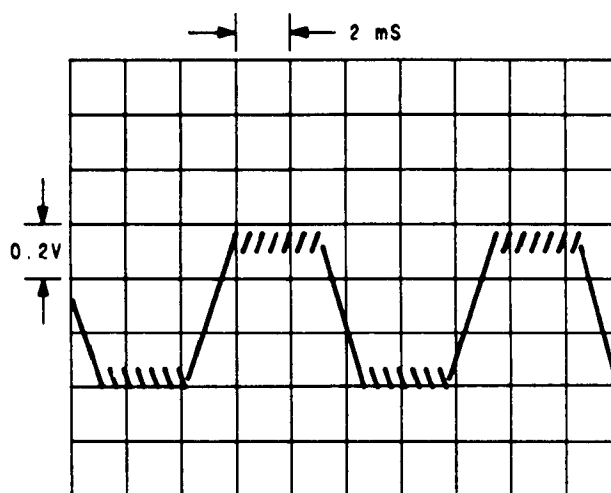

**Figure 6.** Oscilloscope Display of TP3 (dc coupled), Signal Generator's frequency is 950 MHz, modulation EXT FM 3 kHz deviation (100 Hz square wave).
2. Connect Chan 2 to TP3 (ΦM INPUT), and verify that the waveform shown in Figure 6 is correct. Set Trig Src to Chan 3.